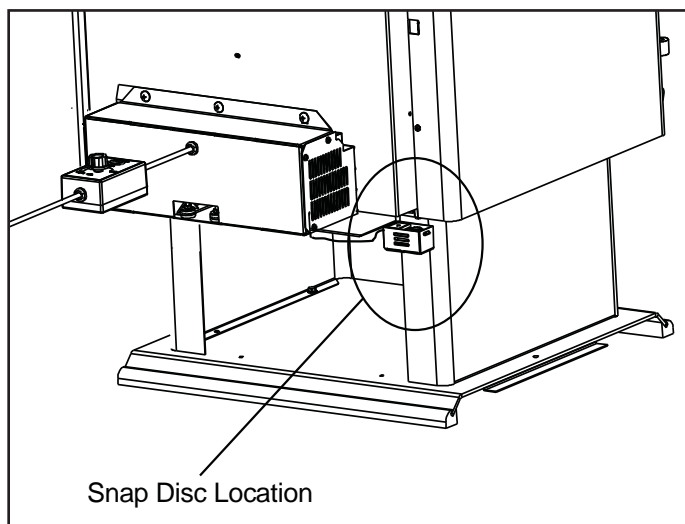

Figure 36.3
1. Locate the snap disc bracket assembly at the bottom left rear corner of the stove. **Figure 36.3**